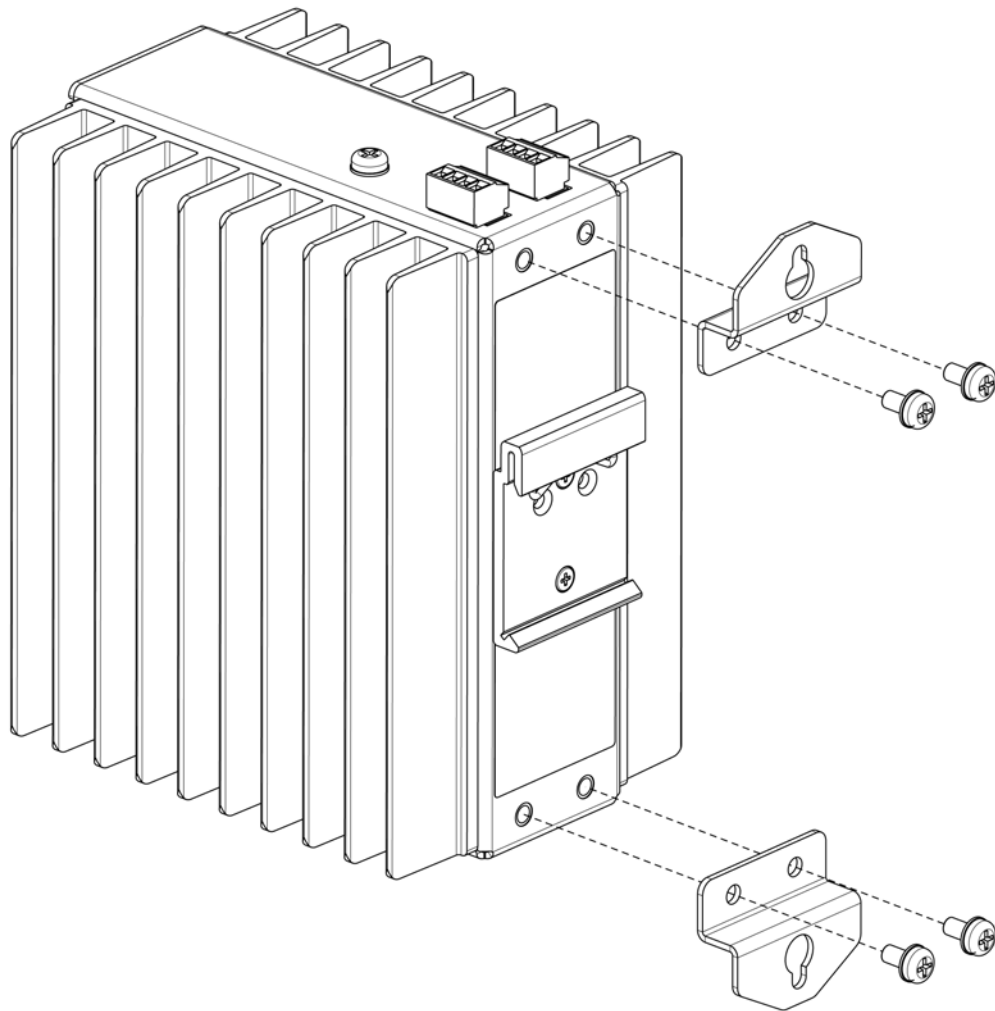

Figure 10: Attaching the wall mount brackets.
2. Attach the wall mount brackets to the unit with four screws, as shown in Figure 10.